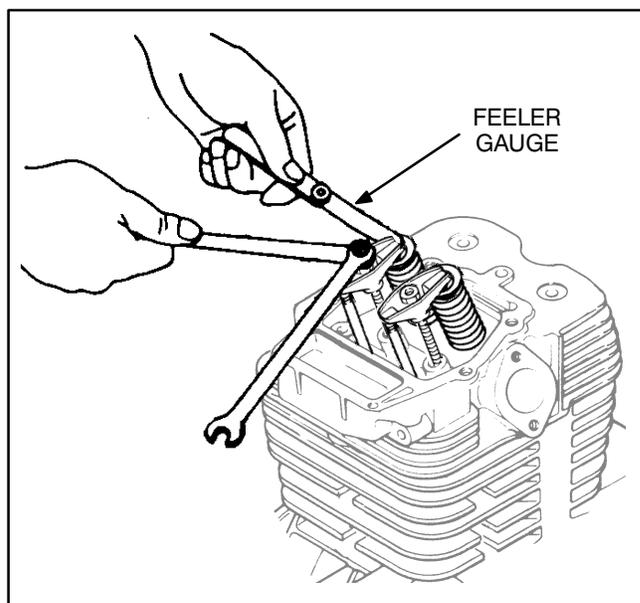

FIGURE 9-11. VALVE CLEARANCE ADJUSTMENT
3. Clearances are shown in *Dimensions and Clearances*, Section 3, for seat width allowable limit. For each valve, the gauge should just pass between the top of the valve stem and the rocker arm. (See Figure 9-11.)